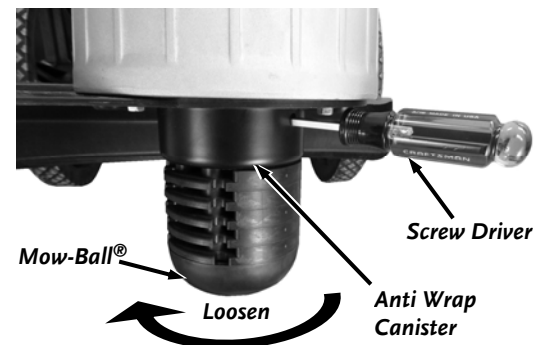

Figure 23
1. Align the hole in the Anti Wrap Canister with the hole in the internal housing at the location shown (**Figure 23**).